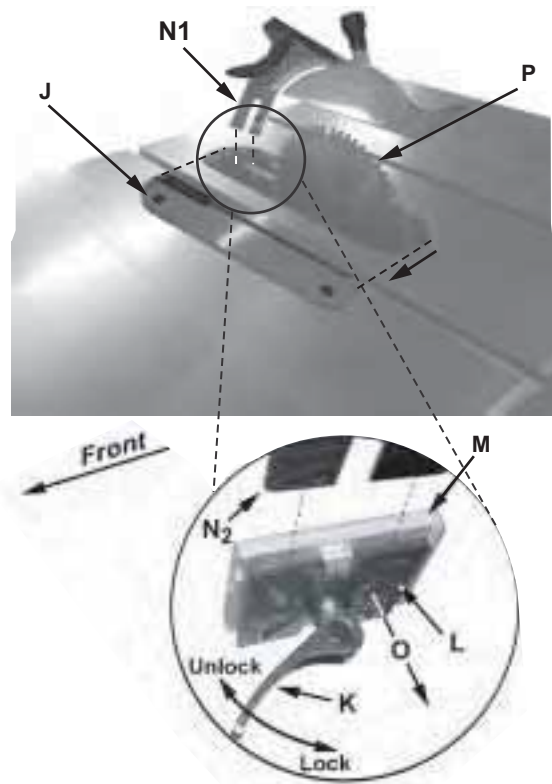

Figure 8
4. Rotate the arbor to line up the *slot* (C) with the *arbor lock* (D).
5. Press the *arbor lock* (D) in the direction shown by the arrow to engage it into the *slot* (C) in the *arbor*. At the same time remove the *arbor nut* (A), loosening with a wrench if necessary.
6. Remove the *collar* (B).
7. Install the blade, making sure the cutting teeth at the top of the blade point toward the front of the saw. If unsure, refer to Figure 8 for the proper blade orientation.
8. Replace the *collar* (B) and *arbor nut* (A).
9. Engage the *arbor lock* (D) and tighten the *nut* (A) with a wrench.
Referring to Figure 8:
2. Remove the table insert (J).
3. Located inside the table and accessible through the insert opening (Figure 8 inset), place the quick-release clamp lock handle (K) in the unlock position.
4. The floating clamp block (L) is spring loaded and will move away (O) from the fixed block (M), leaving a gap.
5. Insert the bottom of the riving knife (N1, N2) all the way into the gap between the *clamp blocks* (L, M); then lock the *handle* (K).
6. Replace the *insert* (J) back on the table. The saw blade and riving knife should protrude through the slot in the insert.
The clamping blocks (L, M, Fig. 8) are adjusted at the factory and no further adjustment of the blade guard and riving knife assembly should be necessary. However, **proper alignment is very important**. Before operating the table saw, read *Riving Knife Adjustment* (p.14) to verify and follow the adjustment procedure if necessary.